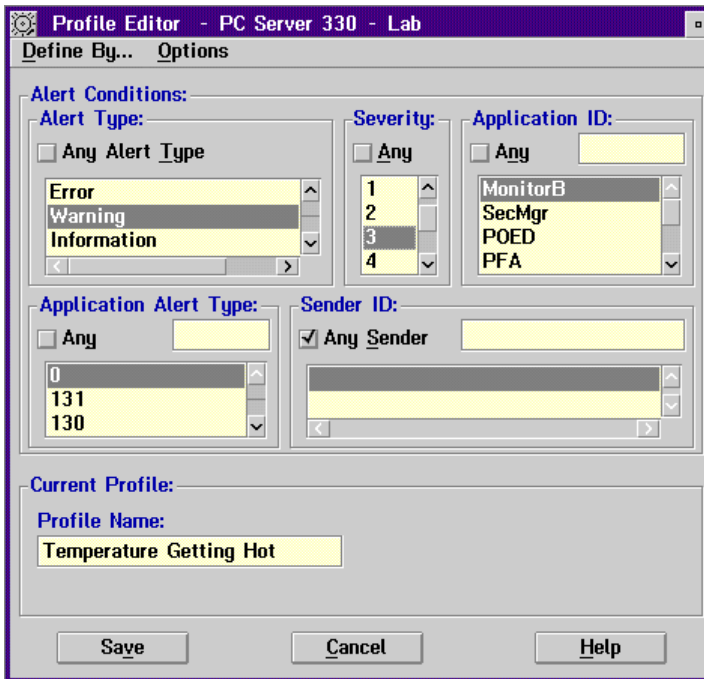

Figure 7: Profile Editor for 40°C Alert
For the 40°C alert, we would get a severity 3 warning and at 50°C mark we would get a severity 1 error. The alert conditions for the 40°C mark can be seen in Figure 7.
11. Save the defined profile. This action will now appear in the Profile List window of the Alert Profiles window. The profile editor will look like Figure 7 on page 13 at this point.